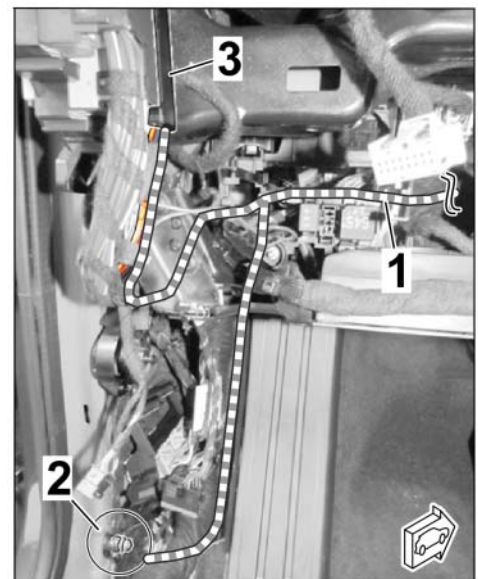

Figure 25
- 2.4.7 Route branch for power supply/ground (line BN; 1.02 with cable ring eyelet and line RD/YE; 1.02) from wire harness for engine noise control unit/pulse sender) to the passenger compartment as follows (⇒ Figure 25):